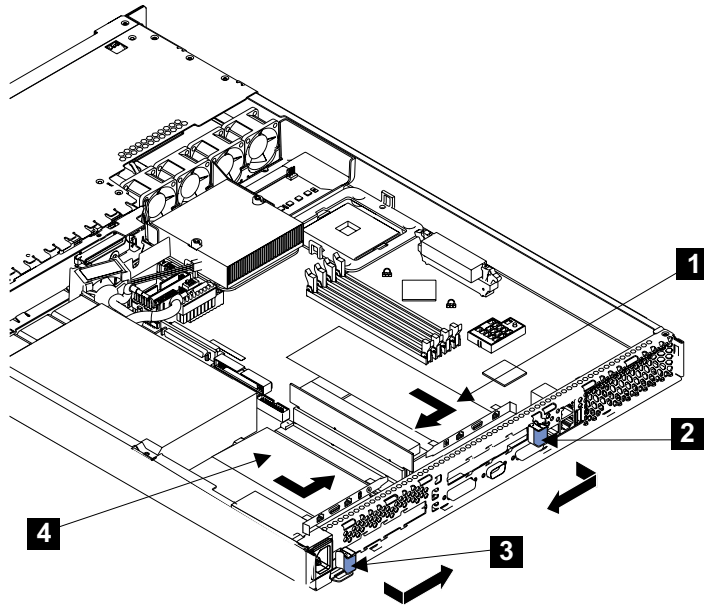

Figure 95. Replacing an adapter
1. Refer to Figure 95 on page 147